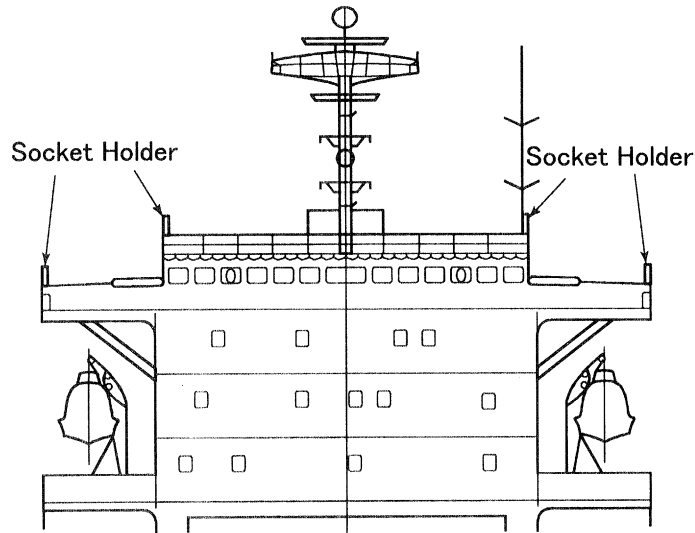

Fig. 3.3 This diagram depicts Socket Holder installation.
- (2) Weld the Socket Holder to a hand rail etc. on either side of the compass deck in a location with a good view. Install the Socket Holder so that it is positioned closer to the bow than to the radar mast. (refer to Fig. 3.3)